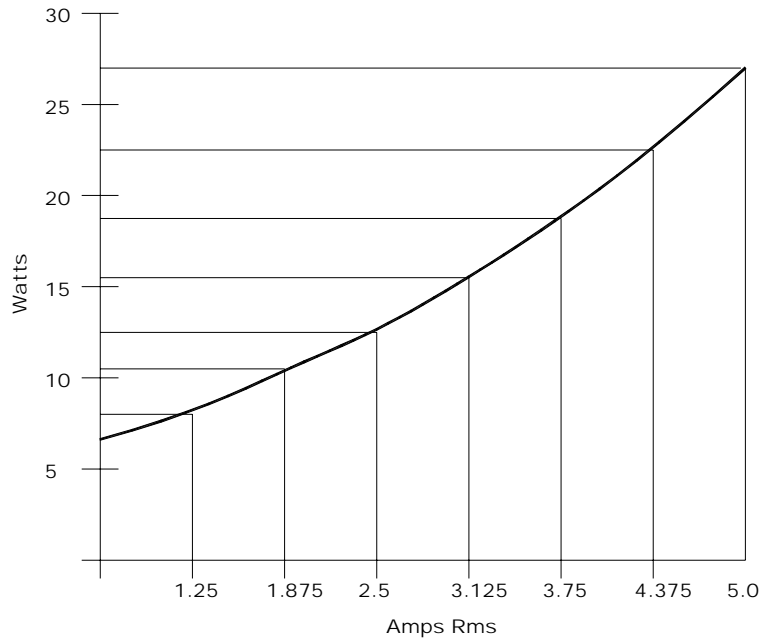

Figure 4: Power Dissipation vs. Output Current
- **w/o Heat Sink:** 2.5A max. at 25°C Ambient, 1.25A max. at 45°C Ambient (see Figure 4 for plot of Drive Power Dissipation vs. Output Current)